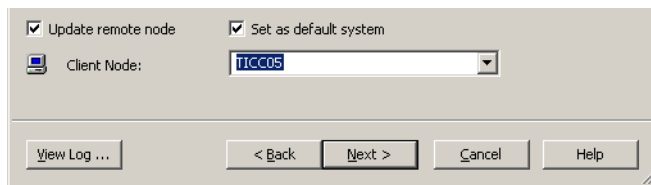

Figure 17. Client Administration Dialog Box (Extract)
3. Select the node to add in the **Client Node** drop-down menu, see Figure 17. Click **Next**.